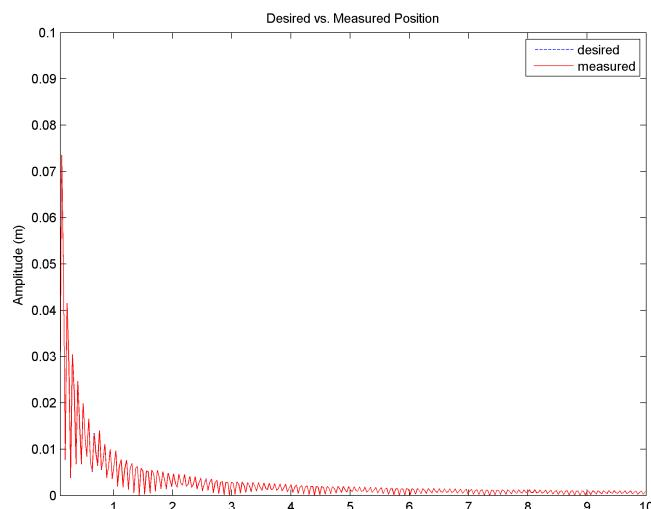

Figure 2.10: FFT of desired and measured position along x-axis after running Northridge earthquake
2. To produce the $|X(\omega)|$ position power spectrum similar to Figure 2.10, run *fft_eval_pos.m*. The desired or commanded position is the blue trace and the measured position (from the encoder) is the red plot line.